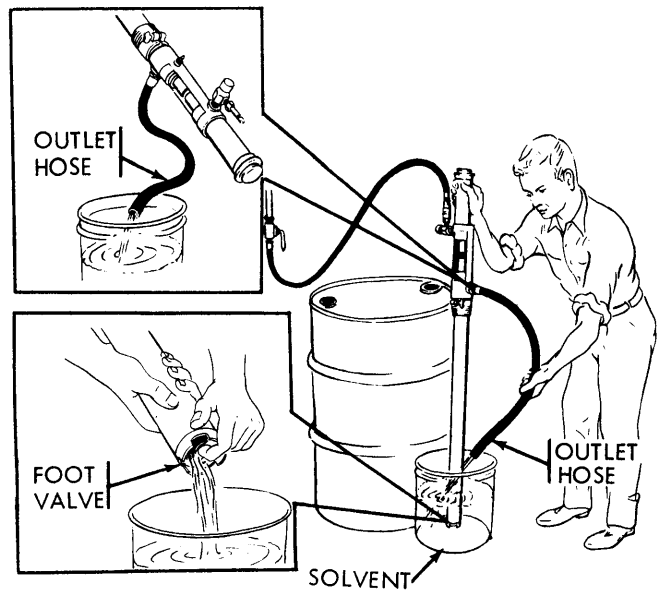

Fig. 4
- (1) Connect a 4 ft hose to fluid outlet. See Fig 4.
- (2) Take pump out of drum and stand it in a pail of compatible solvent. Refer to Fig 4.
- (3) Put hose in the pail and start the pump. Circulate the solvent for at least 5 min.
- (4) After stopping the pump, press up on the bottom of the foot valve to drain the lower part; then tip the pump over to drain the upper part. Refer to Fig 4.
- (5) Lubricate the pump (par 3 (4))